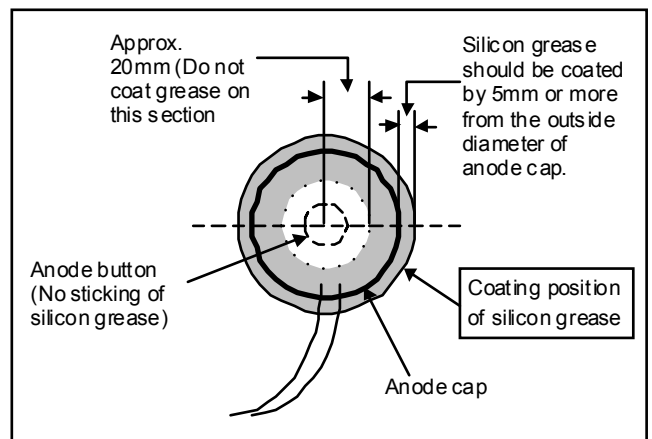

Fig. 7
- Coat silicon grease on the section around the anode button. At this time, take care so that any silicon greases dose not stick to the anode button. (Fig.7)